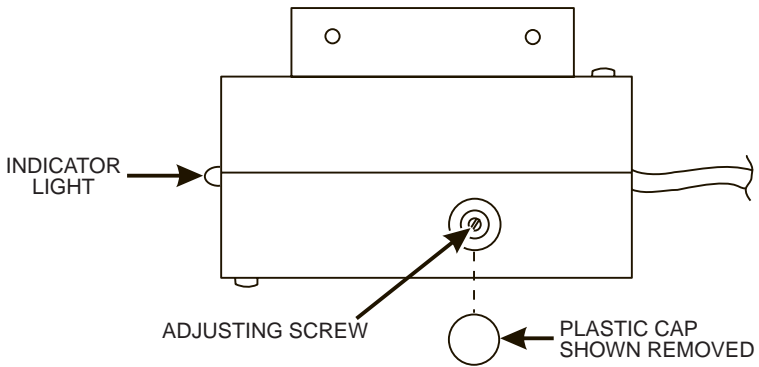

Figure B1.
1. Remove the plastic cap in the rear of the sensing unit, exposing the potentiometer adjusting screw, as shown in figure B1.